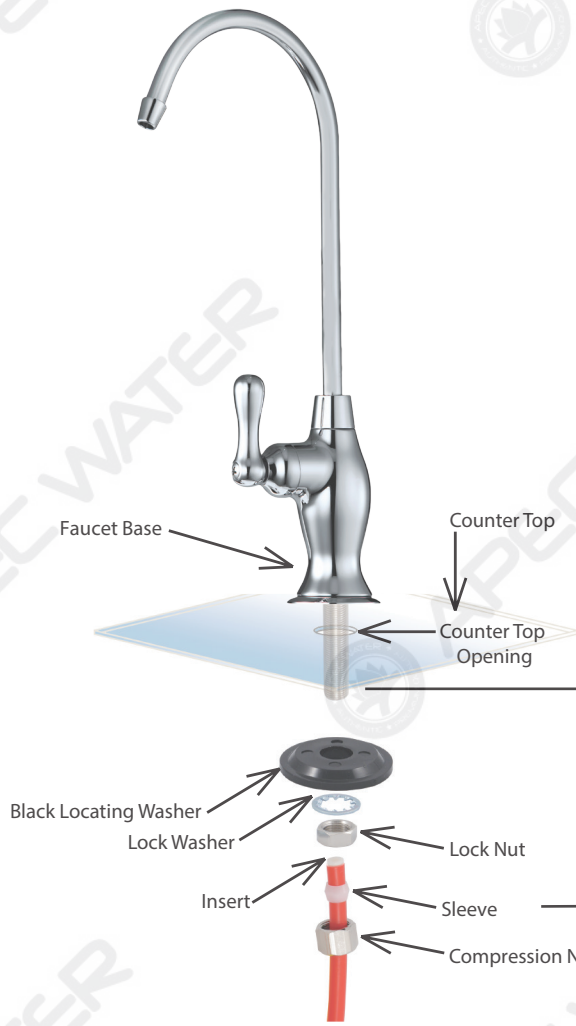

Fig. 9B
1. Mount the faucet as shown in **Fig. 9B (Page 12)**.